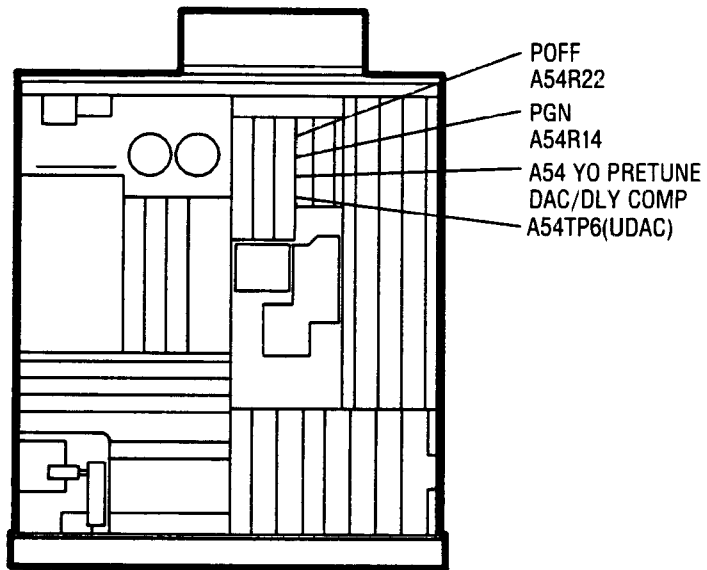

Figure 5-14. YO Pretune DAC Gain Adjustments Location
3. Connect the DVM to A54TP6 (VDAC) and adjust A54R22 (POFF, Figure 5-14) for -5.75 ± 0.001 Vdc.
5. Adjust A54R14 (PGN, Figure 5-14) for -17.5 ± 0.001 Vdc.